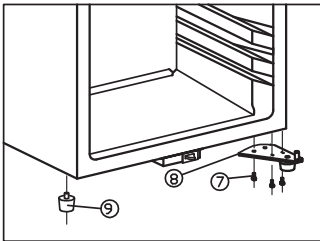

Abb. 7.3
- Remove the long cabinet leg (9) on the left side, and shift it to the right end side. See fig. 7.3
- Install the door on the axe of lower hinge (8) the same way it was removed, screw back the top hinge on the left.